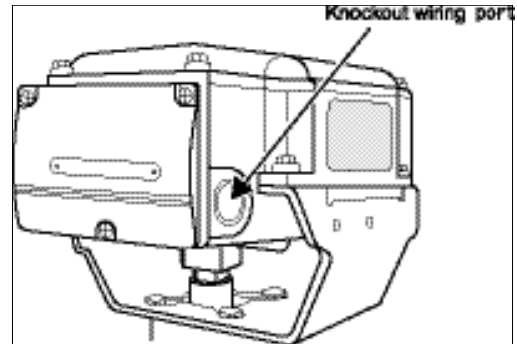

Figure 8. Knockout hole for wiring port
- To lead the wires into the actuator, cut out a knockout hole for a wiring port. There are two knockout holes on the bilateral sides of the actuator terminal block: one  $\phi 22$  mm knockout hole on each side. Select a knockout hole according to the conduit mounting direction and cut it out by lightly knocking with a screwdriver. (Refer to Fig. 8)